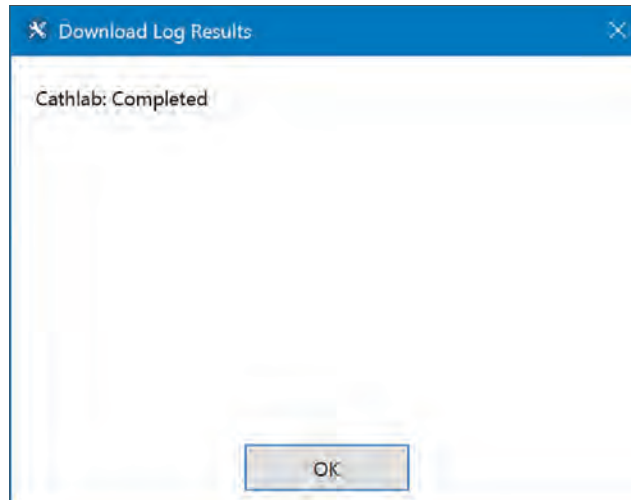

Figure 116: CCM – Download Log Results
- 7 Select **OK** in the **Download Log Results** dialog box (Figure 116).